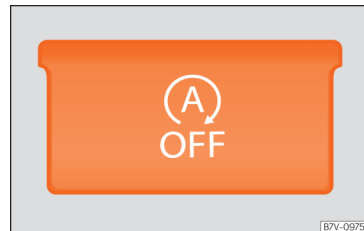

Fig. 244 Detail of centre console: Start-stop operation button.
- Press the  button on the centre console **»» Fig. 244.**